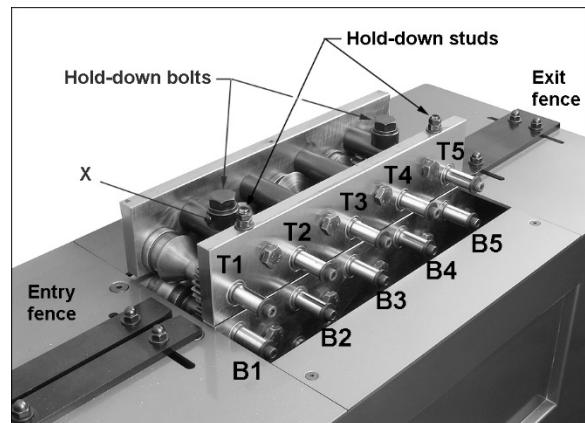

Figure 7-1
5. Tighten hold-down stud (see Figure 7-1) so that "T5" and "B5" rolls do not separate when drive cleat passes through.
5. After adjustments, lock setting of the bolts by tightening side screw (X, Figure 7-1). Lock setting of studs by tightening top nuts.
Refer to Figure 7-1.